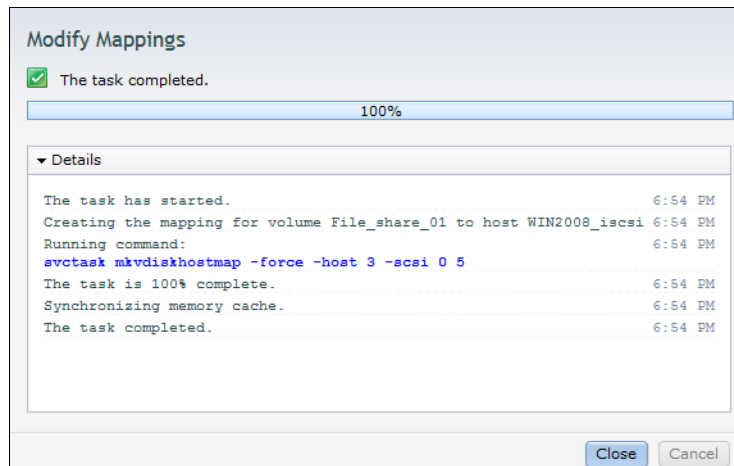

Figure 6-34 Map to host - CLI command displays
4. After the task completes, click **Close** (Figure 6-34), and the wizard returns to the **Volumes** window.